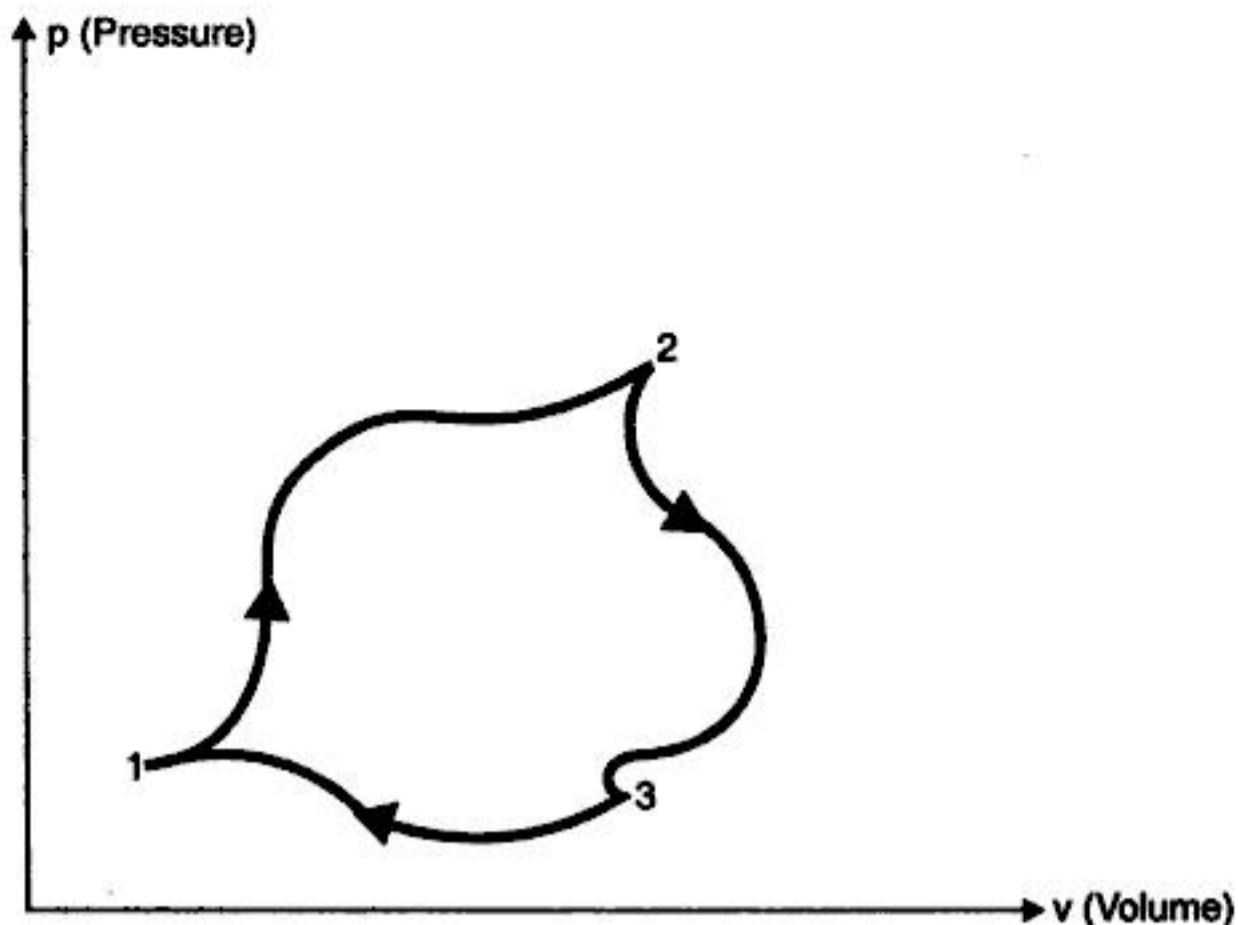

Fig. 1.5. Cycle of operations.
*Any process or series of processes whose end states are identical is termed a cycle.* The processes through which the system has passed can be shown on a state diagram, but a complete section of the path requires in addition a statement of the heat and work crossing the boundary of the system. Fig. 1.5 shows such a cycle in which a system commencing at condition '1' changes in pressure and volume through a path 123 and returns to its initial condition '1'.